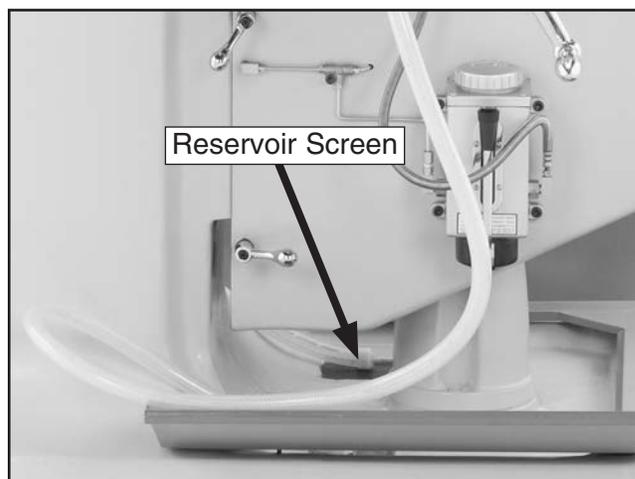

Figure 57. Reservoir screen on the base.
2. Clean away debris and grime from the reservoir screen on the base of the mill, then remove it to inspect the level of coolant (see **Figure 57**).